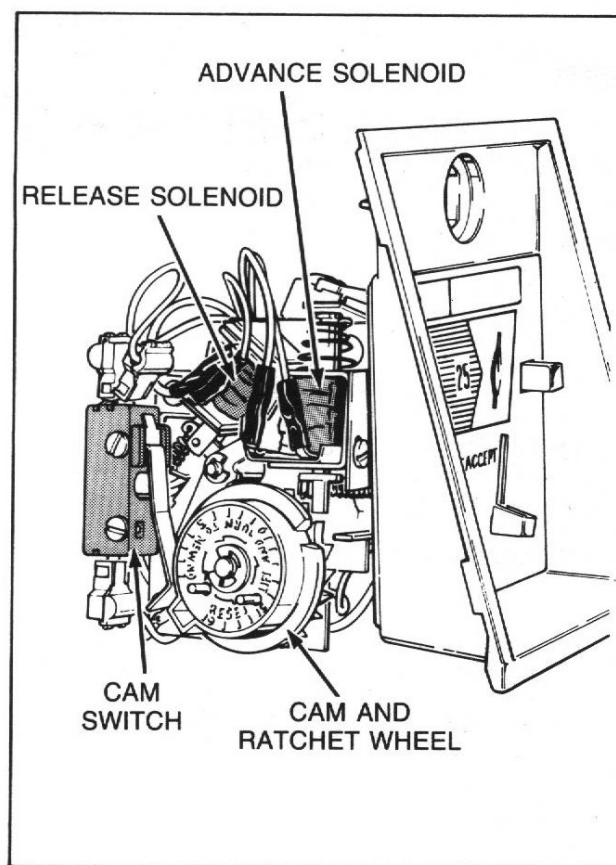

Figure 3
2. Install cam switch, *Figure 3*, so it clicks "on" about 3/4 the distance up switch cam rise.
3. Install advance solenoid, *Figure 3*, so plunger actuates the ratchet wheel enough for the pawl to latch it. Make sure ratchet wheel teeth can rotate clear of plunger boot after solenoid plunger has returned.
4. Install release solenoid, *Figure 3*, so when fully actuated, the solenoid will pivot the pawl enough to allow the ratchet wheel to rotate freely.